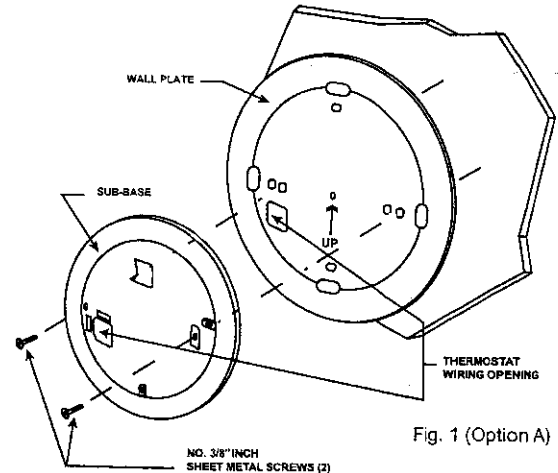
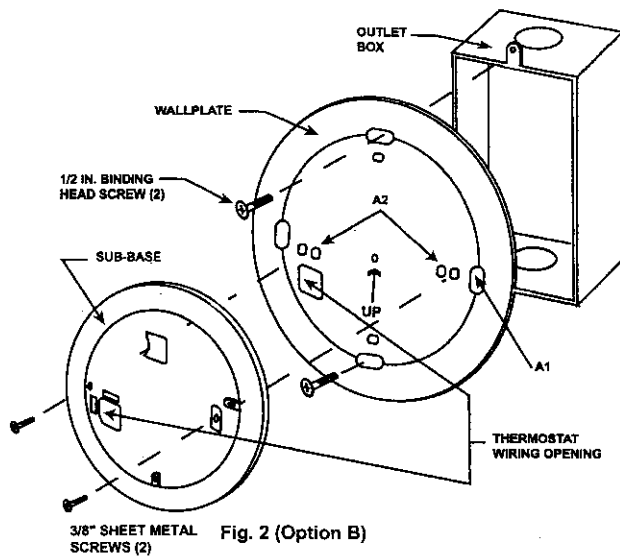

Fig. 1 (Option A)
Fig. 2 (Option B)
#### If using the wall plate Fig. 1:
#### If installing on an outlet box Fig. 2
5. Use the 3/8" screws to attach the subbase to the wall plate as described under Fig. 1 item 7.
Use the switch marked with "CY5M" & "CY2M" (fig.2) in the middle of Setting pin switches to set system running cycles. At CY2M side: maximum 1 cycle per 2 minutes. At CY5M side: maximum 1 cycle per 5 minutes.
Hold the thermostat body and depress the top center of the thermostat with your thumb or use a screwdriver to depress the indent. Gently pull down and outward to separate the thermostat from the subbase. Determine the desired method of installation from Fig.1 or Fig.2